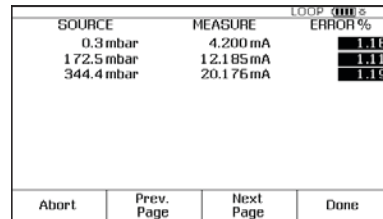

Figure 7.
4. Press the **Manual Test** softkey to begin calibration. Apply the input pressures as instructed in the **SOURCE** screen. Press the **Accept Point** softkey when the correct pressure is applied for each point. When the test is complete, the error summary table is displayed (Figure 7). Test errors exceeding the tolerance are highlighted. When done viewing the table, press the **Done** softkey. Press **Done** again to accept, or **ENTER** to change the tag, serial number or ID fields.